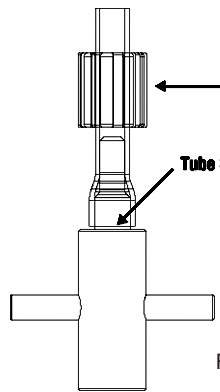

Figure 2
2. Remove the PFA tubing from the heat source. Immediately push the flaring mandrel (see Figure 2) into the tubing until the end of the tubing reaches the tube stop.